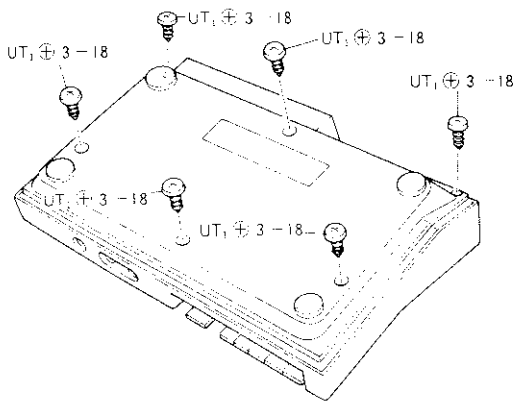

Fig. 2
- 1) Remove 6 screws. (Refer to Fig. 2)